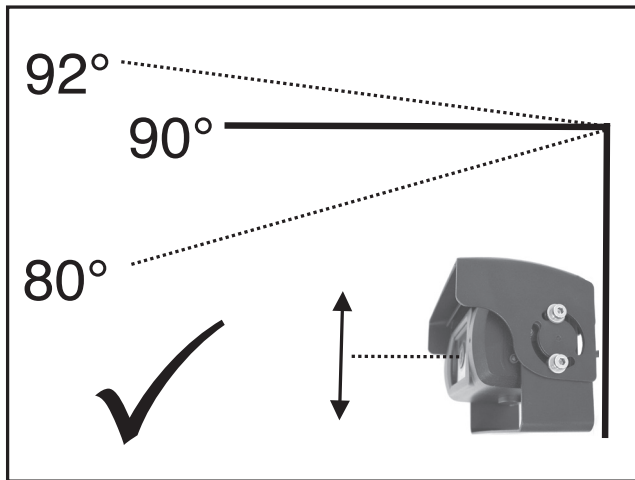

Figure 3
The camera is not suitable for mounting in a hanging position. As shown in figure 3, the installation must be in an upright position or similar.
- Unfasten the mounting screws slightly on both sides (fig. 1, pos. 8) in order to adjust the camera's angle of inclination. While adjusting the camera pay attention that the camera shutter is able to move freely. When the adjustment is completed, re-tighten the screws on both sides. For this, please also refer to Figure 3.